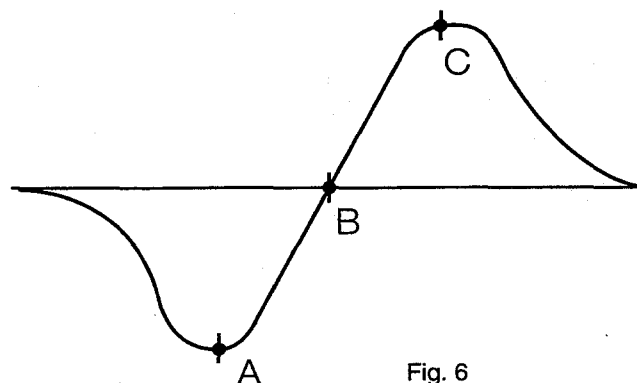

Fig. 6
1. Adjust T303 to make the marker point B (relative marker frequency see table 2) centered as in (Fig 6).